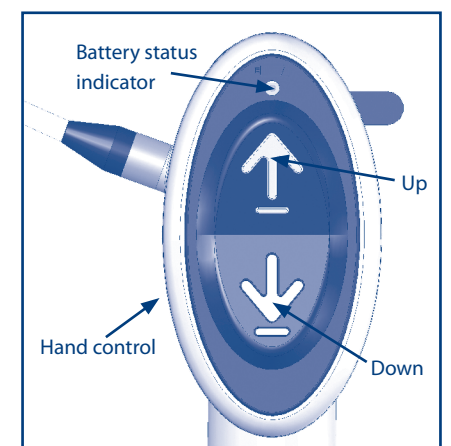

Figure 12
Always check the battery status indicator on the hand control before using the bath lift (see fig 12). Press the UP button and observe the following guidelines:
- i) To raise the bath lift, press the UP button on the hand control (see fig 12). If the side flaps are caught, immediately lower the bath lift by pressing the DOWN button on the hand control. Pull each side flap free from the obstruction, then resume the lifting operation.
- vi) To lower yourself to the bottom of the bath, press the DOWN button on the hand control (see fig 12). When the button is released, the bath lift will stop and remain at that position until the button is pressed again.